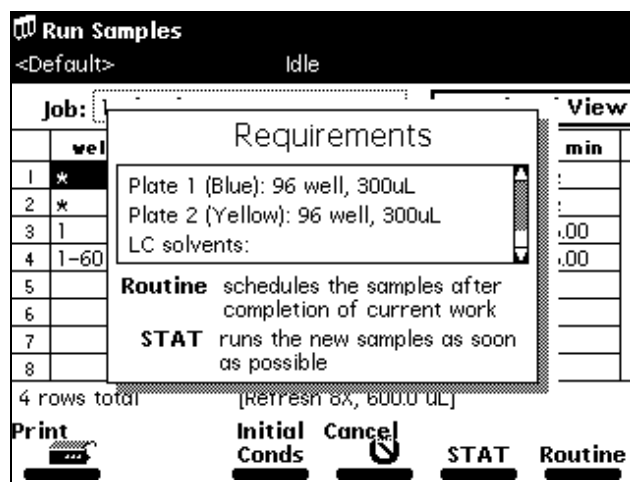

Figure 6-4 Run Samples Requirements Screen (Example)
- Press the **Start** screen key. The Run Samples Requirements screen appears (Figure 6-4). Check that the information in the Requirements screen is correct.
5. Press the **Start** screen key. The Run Samples Requirements screen appears (Figure 6-4). Check that all information in the Requirements screen is correct.